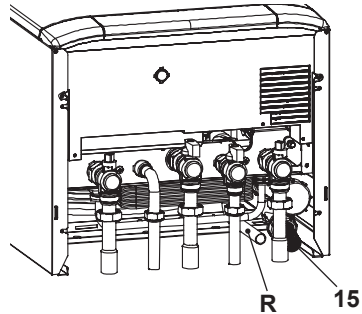

Fig. 6.4
- Connect the pipe R (Fig. 6.4) from the pressure relief valve to the safety dis-
- Fit the condensate drain 15 (Fig. 6.4) in the air brake connected to the drainage pipework. See also section "Condensate drain" to page 32.